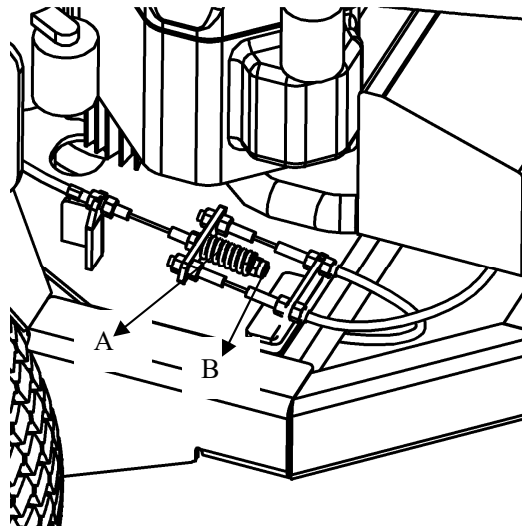

Fig. 23
- Locate the brake spring (A, Fig. 23).
- If the spring is not within this range, release the parking brake and turn the adjustment nut (B, Fig. 23) to compress or release the spring.